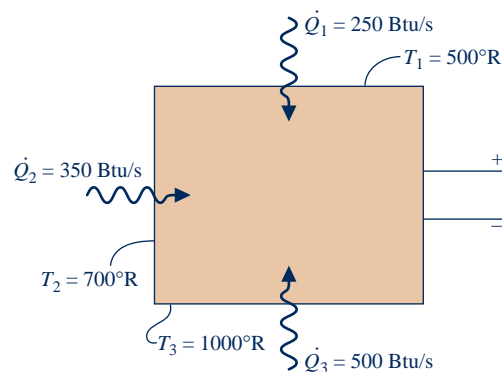

Fig. P6.53
6.53 An inventor claims that the device shown in Fig. P6.53 generates electricity while receiving a heat transfer at the rate of 250 Btu/s at a temperature of 500°R , a second heat transfer at the rate of 350 Btu/s at 700°R , and a third at the rate of 500 Btu/s at 1000°R . For operation at steady state, evaluate this claim.